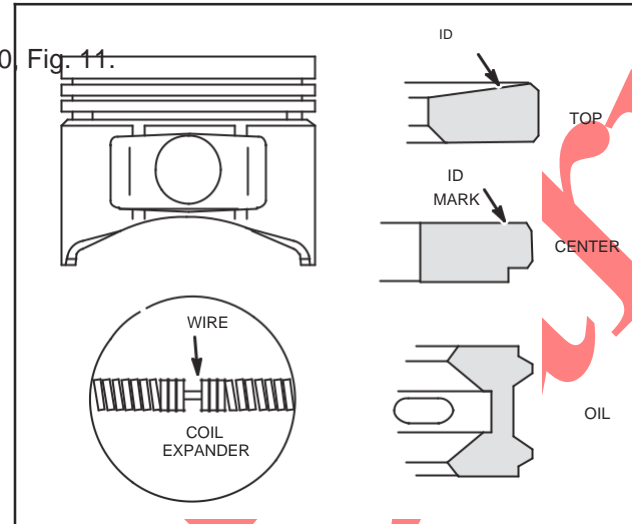

Fig. 11 – Installing Piston Rings
1. Install piston rings using ring expander, Tool MARK #19340 Fig. 11.